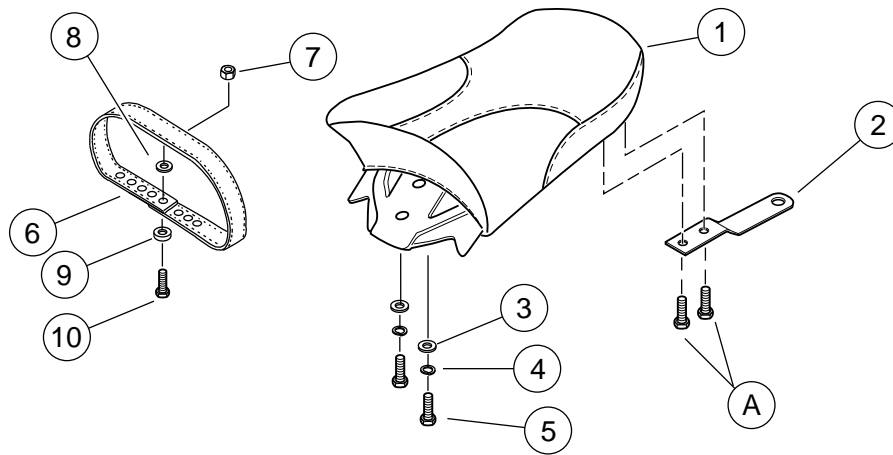

Figure 5. Service Parts: Dyna Passenger Pillion Seat
See Figure 5 and Table 1.
2. With the rib on the retention nut seated into the notch in the fender hole, slide the retention washer (2) into place from the rear. This will lock the retention nut in place. Remove the cable strap.
3. See Figure 5. Obtain the grab strap (6), flange screw (10), retention nut (9), washer (8) and hex nut (7) from the kit. If the vehicle has a grab strap installed, skip to Step 5.
6. See Figure 5. Install stock seat bracket (2) to pillion with stock cap screws (A).
7. Fasten passenger pillion seat to bottom of solo saddle with cap screws (5), lockwashers (4) and flat washers (3). Tighten cap screws securely.